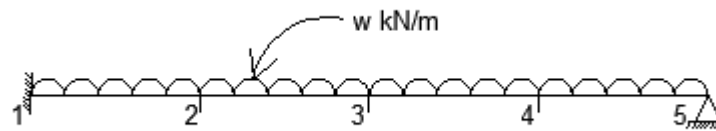

Fig.1
8. A propped cantilever AB fixed at A and propped at B is of length L and has constant flexural rigidity EI . The cantilever supports a udl of w kN/m over the whole length as shown in Fig. 1. Using 4 subintervals, estimate the deflection at pivotal points using 4th order differential equations.